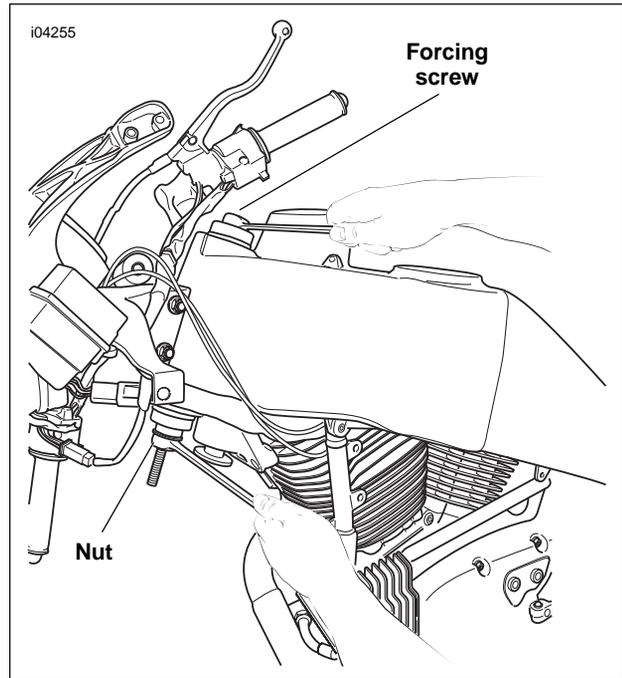

Figure 2-80. Install Bearings
- See Figure 2-80. Hold the forcing screw while tightening the nut to draw the bearings into the steering head. Continue tightening until both bearings are fully seated.